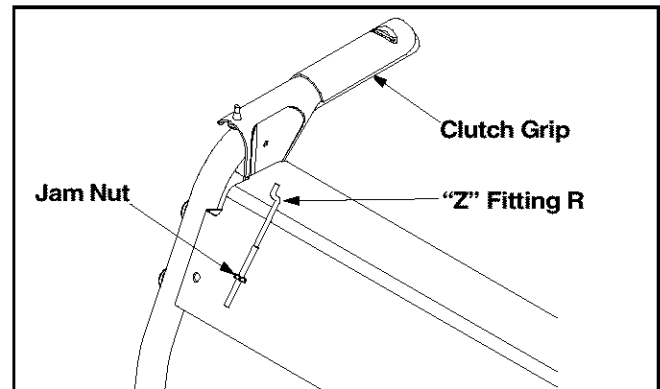

Figure 6
- If Z fittings are **not** already attached, thread hex nuts onto the "Z" fittings and insert "Z" fitting into hole in clutch grips. See Figure 6.